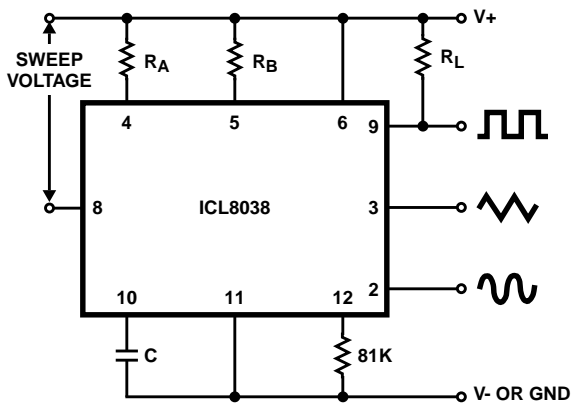

FIGURE 5B. CONNECTIONS FOR FREQUENCY SWEEP
- The hi and lo frequencies can be obtained by connecting pin 8 to pin 7 (f_{HI}) and then connecting pin 8 to pin 6 (f_{LO}). Otherwise apply Sweep Voltage at pin 8 ($\frac{2}{3} V_{\text{SUPPLY}} + 2\text{V}$) $\leq V_{\text{SWEEP}} \leq V_{\text{SUPPLY}}$ where V_{SUPPLY} is the total supply voltage. In Figure 5B, pin 8 should vary between 5.3V and 10V with respect to ground.
For larger FM deviations or for frequency sweeping, the modulating signal is applied between the positive supply voltage and pin 8 (Figure 5B). In this way the entire bias for the current sources is created by the modulating signal, and a very large (e.g. 1000:1) sweep range is created (f = 0 at VSWEEP = 0). Care must be taken, however, to regulate the supply voltage; in this configuration the charge current is no longer a function of the supply voltage (yet the trigger thresholds still are) and thus the frequency becomes dependent on the supply voltage. The potential on Pin 8 may be swept down from V+ by (1/3 VSUPPLY - 2V).